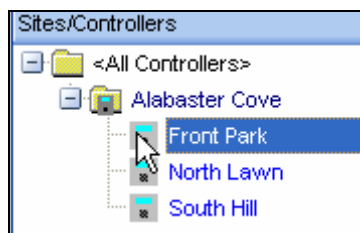

Figure 17.0.2
2. Select the Site / Controller that you want to perform Speed Communications on from the "Site / Controller" window. Make sure that it is highlighted (Figure 17.0.2).